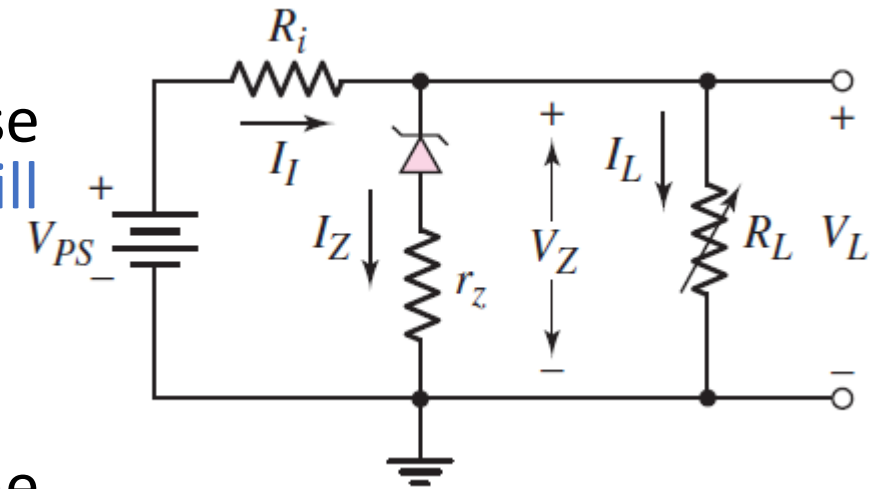

Figure 2.19
- Figure 2.19 shows the equivalent circuit of the voltage regulator **including** the Zener resistance  $r_Z$ .